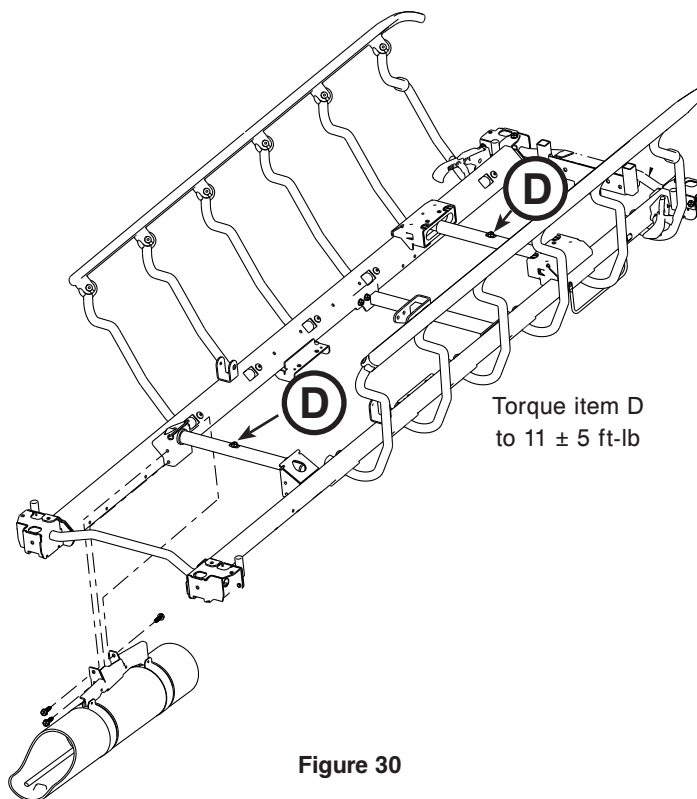

Figure 30
10. Using a 1/2" socket with a 3/8" drive extension and a 3/8" drive ratchet, remove the two hex washer head screws (D) that hold the jack support tubes to the jack shafts (Figure 30).
13. Reverse steps to reinstall. Torque the hex washer head screws (D) on the support tube weldments to  $11 \pm 5$  ft-lb.